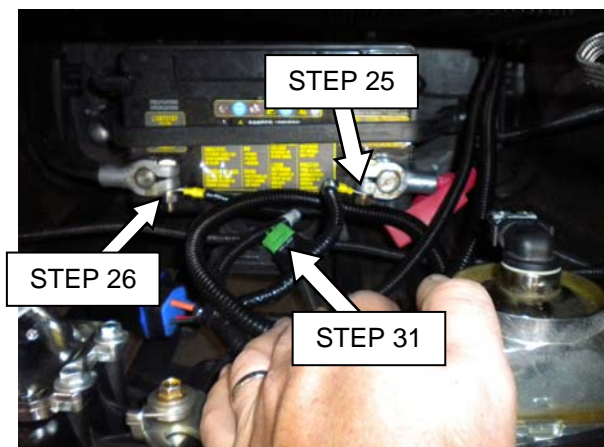
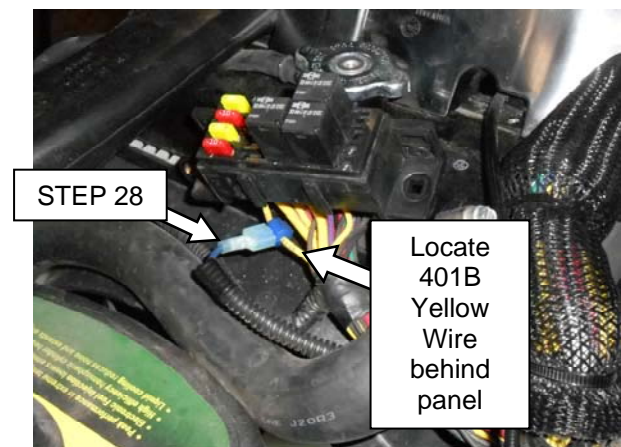

Figure 15
Figure 16
- 25) Connect positive lead with the red wire from the main relay and breaker harness, to the +12VDC terminal of battery (**Figure 15**).
- 26) Connect negative lead with the black wire from the main relay and breaker harness, to the -12VDC terminal of battery (**Figure 15**).
- 27) Route the blue wire labeled, "Ignition On" from main wire harness to the tractor's electrical panel, located on RH side of cowl. Extend this blue wire by connecting a blue 36" wire extension (12), supplied with mount kit.
- 28) Use the blue T-tap connector to connect the blue wire to "Ignition Run Power" wire coming from the tractor's fuse block terminal (Yellow wire #401B) location (**Figure 16**). Removal of fuse panel may be required to get to the back side of panel.
- 31) If switch panel has no power, check the breaker located on the red wire of the main relay and breaker harness. Reset breaker if needed (**Figure 15**).